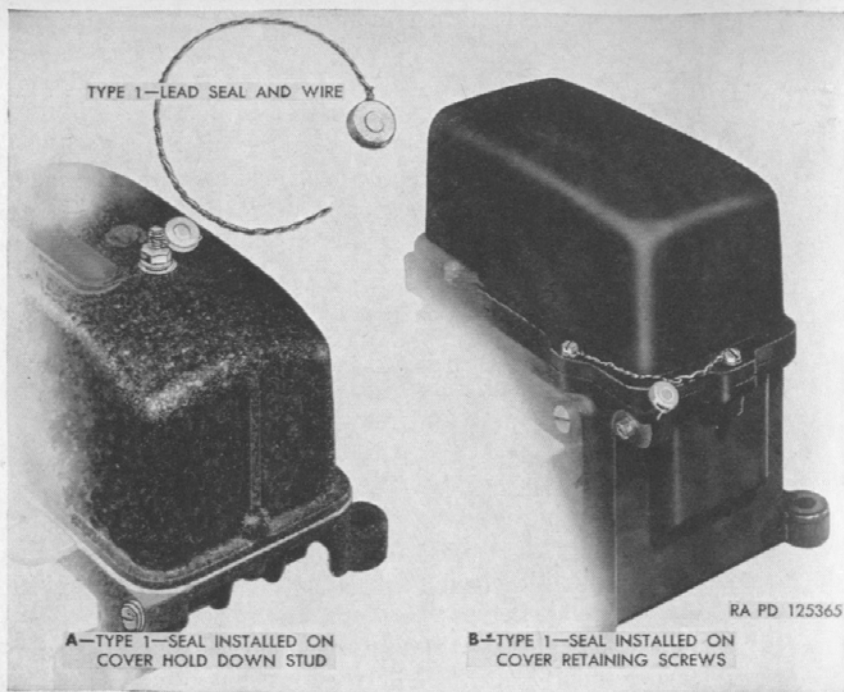

Figure 133. Sealing of group 4 regulators.
- (1) *Type 1—lead seal and wire.* Type 1 seals may be applied in two distinct manners, as illustrated in figure 133. However, the principle of application is the same. Before applying the